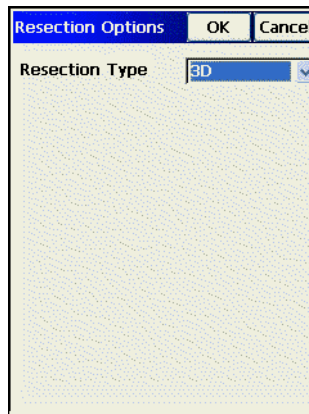

Figure 8-41. Resection Options
- Select the **Options** item from the Help Icon menu in the upper-left corner of the **Resection 3D** screen. In the **Resection Options** screen (Figure 8-41), choose whether to calculate the height (3-D) or just the horizontal coordinates (2-D). The 2D/3D option is retained between sessions to do a new resection with the previously used setting.